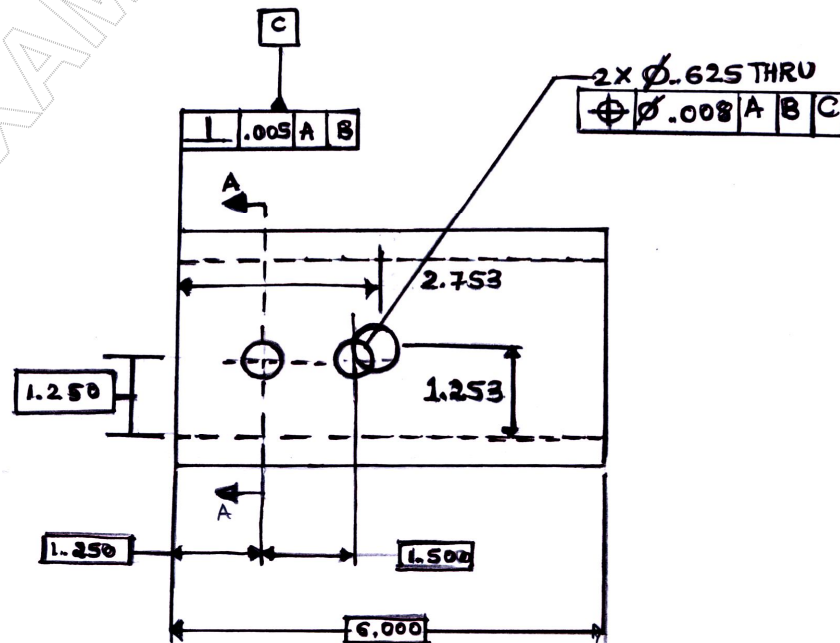

Fig.Q.3(b)
- b. Investigate whether the hole feature shown in Fig.Q.3(b) satisfies the applied position tolerance of 0.008. (11 Marks)